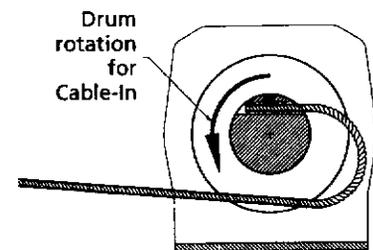

Figure 10
- Feed the end of the new wire rope into the side-drilled hole and tighten the set screw. Make sure that the wire rope feeds from the underwind position. (See Figure 10).
- Make sure freewheel handle is in the engaged position. While watching the winch drum rotation, turn the winch on in the forward direction. Make sure that the rope is winding onto the drum from the bottom (underwind) as illustrated in Figure 10.